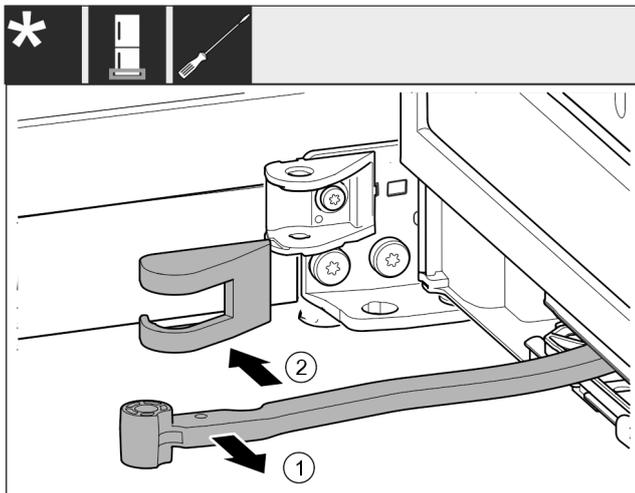

Fig. 20
- ▶ Turn the joint Fig. 20 (1) towards the door.
- ▶ Remove the swap bearing block cover Fig. 20 (2).